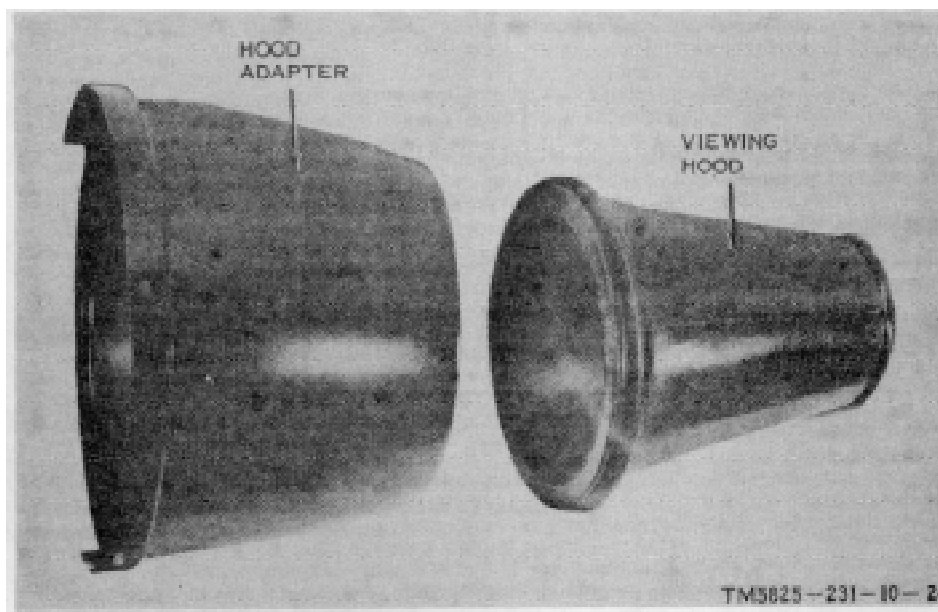

Figure 1-31. Viewing hood and adapter.
g. *Viewing Hood and Viewing Hood Adapter.* A viewing hood for the azimuth indicator is shown in figure 1-31. This hood is used when incident light levels in the shelter make the azimuth indicator trace difficult to see.